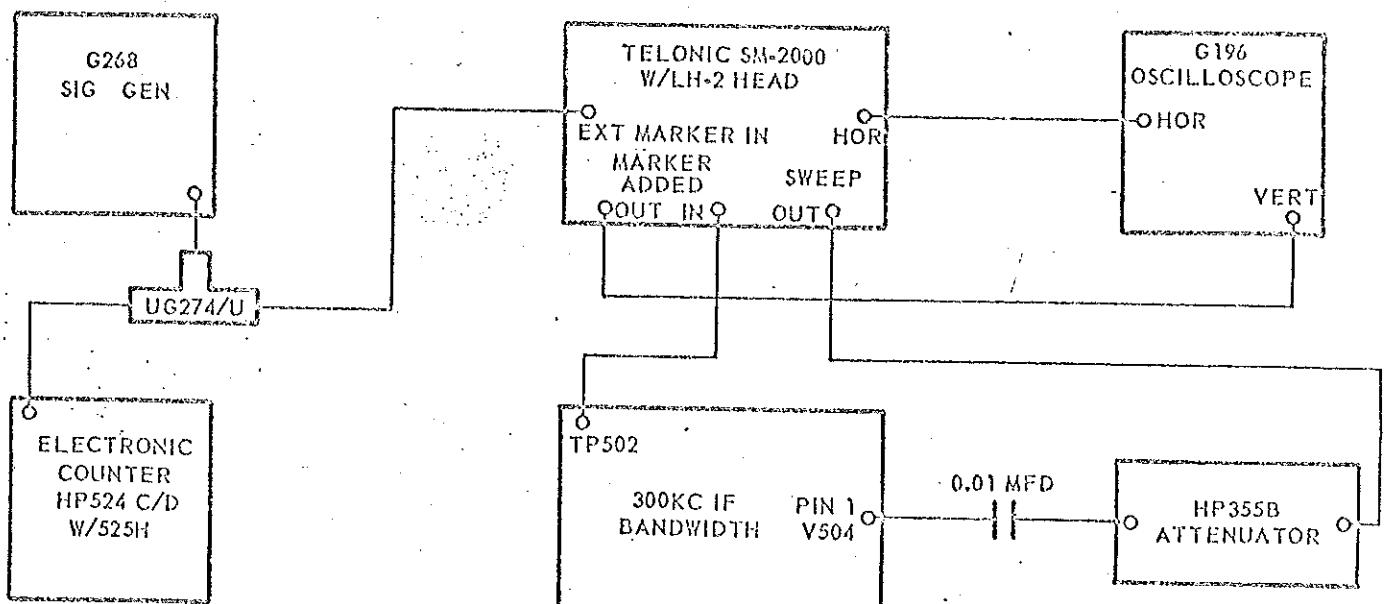

Figure 5-2
- b. Remove I-F bottom cover and connect test equipment as shown in figure 5-2.
- a. Remove V403 and V502 and connect test equipment as shown in figure 5-2, except transfer connection shown at TP502 to TP501 and connection at V504, pin 1 to V503, pin 1.
- a. Replace V502 and connect test equipment as shown in figure 5-2, except transfer connection shown at V504, pin 1 to V502, pin 1.
- a. Connect test equipment as shown in figure 5-2, except transfer connection shown at V504, pin 1 to V501, pin 1.
- c. Connect test equipment as shown in figure 5-2, except transfer connection shown at V504, pin 1, to TP402 (located in low band tuner).